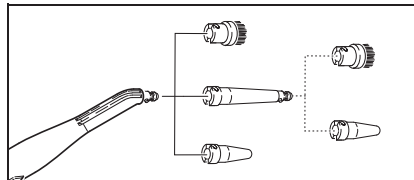

Figure 8
- The detail nozzle (D1) may also be used with the extension piece (D2), the round brush (D3), or the power nozzle (D4) (see Fig. 8). To do so, put the two grooves of the attachments on the locks of the detail nozzle and turn clockwise until the stop.